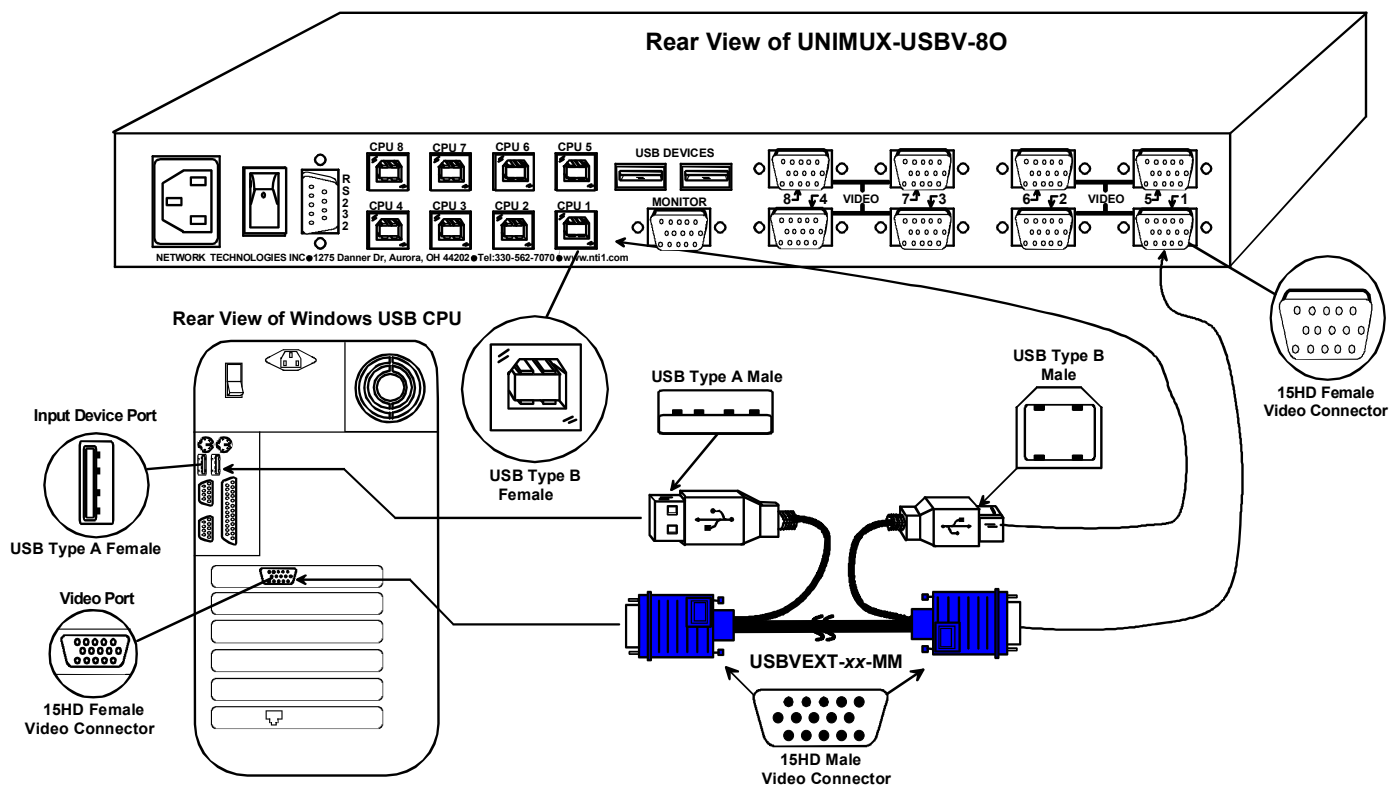

Figure 6- Connect each CPU
7. Connect each CPU to the USB switch using a USBVEXT-xx-MM video and input device interface cable – REQUIRED (not supplied). (See Fig. 6 below.)